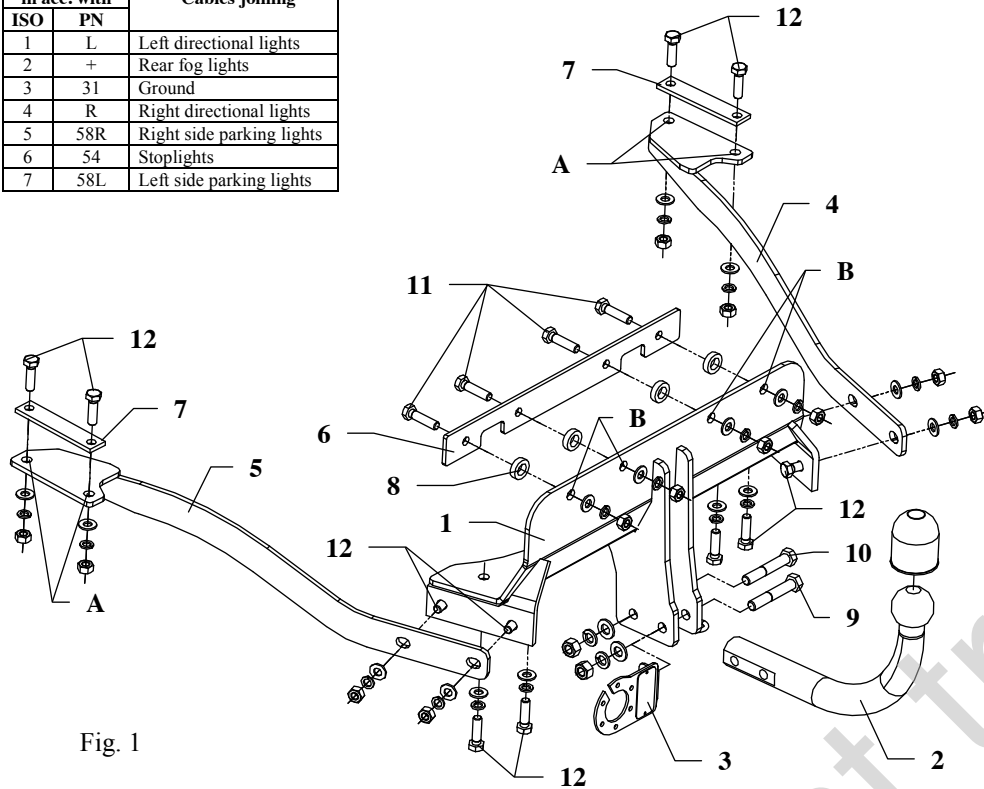

Fig. 1
5. To so prepared holes, apply the main plate (pos. 1) and fix using bolts M10x40mm (pos. 11). Use the distance sleeves $\varnothing 25$; $L=7\text{mm}$ (pos. 8) and plate (pos. 6). Look at the drawing 1.
6. Fix side brackets (pos. 4 and 5) together with fish-plates (pos. 7) to the main plate of the towbar (pos. 1) and to the floor. See the drawing 1.
9. Fix tow ball (pos. 2) using bolt M12x75mm (pos. 9) and M12x70mm (pos. 10). With bolt M12x75mm fix also a socket plate (pos. 3). See figure 1.